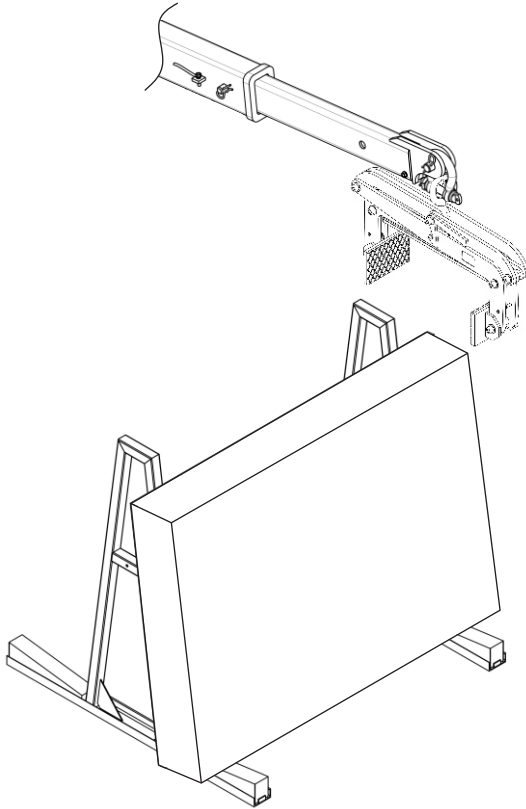

Figure 2.1
- Move the clamp over the stone slab to be lifted (Figure 2.1).